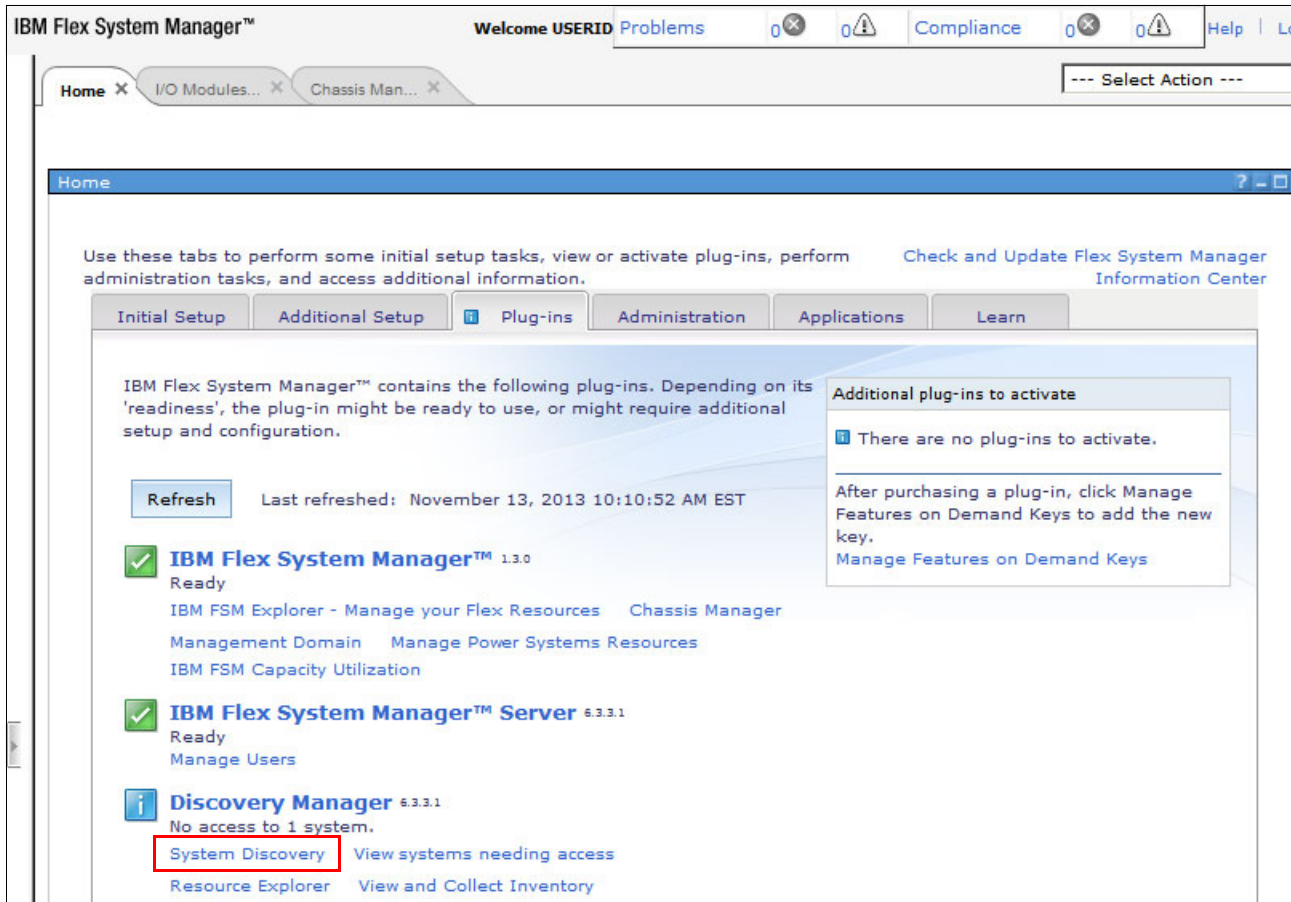

Figure 6-64 FSM Home window: System Discovery
- ▶ From the Plug-ins tab in the Home window: Click **System Discovery** under Discovery Manager, as shown in Figure 6-64.